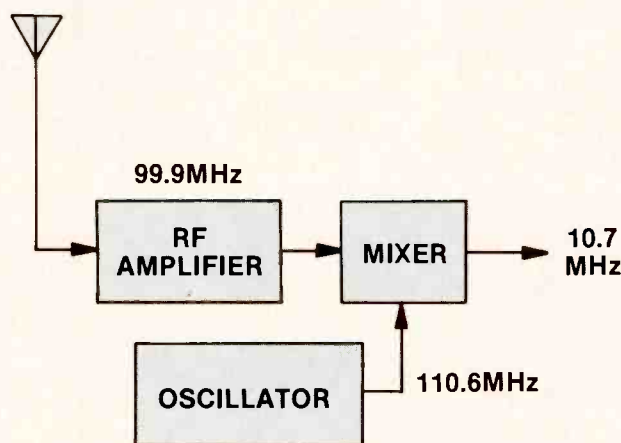

Figure 1.
The block diagram in Figure 1 is for a typical tuner in a superheterodyne receiver. If this is an FM tuner, it must be able to select one of 99 channels or stations between 88.1MHz and 107.9MHz. With 99 stations available, it is possible to make a detent tuner that stops at each of the 99 carrier frequencies. In that case, the detent tuner would do the same job as the microprocessor tuner does.
For this discussion, we will assume that the listener has selected a station at 99.9 MHz. As shown in Figure 1, the local oscillator must be tuned to 110.6 MHz in order to get a difference frequency, or intermediate (IF) frequency, of 10.7 MHz.
Figure 6 shows the phase-locked loop for producing the crystal-stabilized local oscillator frequency of 110.6MHz as shown in Figure 1. A 200kHz crystal oscillator is used for stability in the circuit of Figure 6. That crystal oscillator frequency is divided by 8 to produce a 25kHz input to the phase detector.